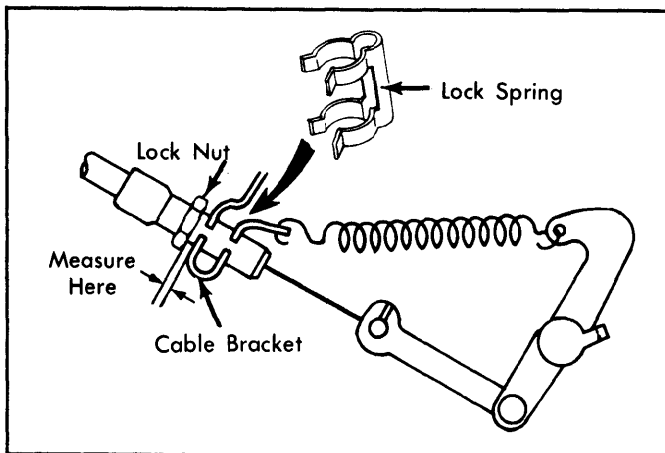

Fig. 5: Hot Start Assist Choke Adjustment
2) Check clearance between cable bracket and lock nut on cable. See Fig. 5. Clearance should be .02-.08" (0.5-2.0 mm). If not within specifications, adjust by turning lock nut. Then install lock spring securely on cable.
- ① — Manufacturer does not supply fast idle speed. See Choke Linkage (Fast Idle Opening Angle).
② — Federal clearance. California vehicles should have .051-.059" (1.3-1.5 mm) clearance.
③ — Varies with ambient temperature. See Fig. 5.